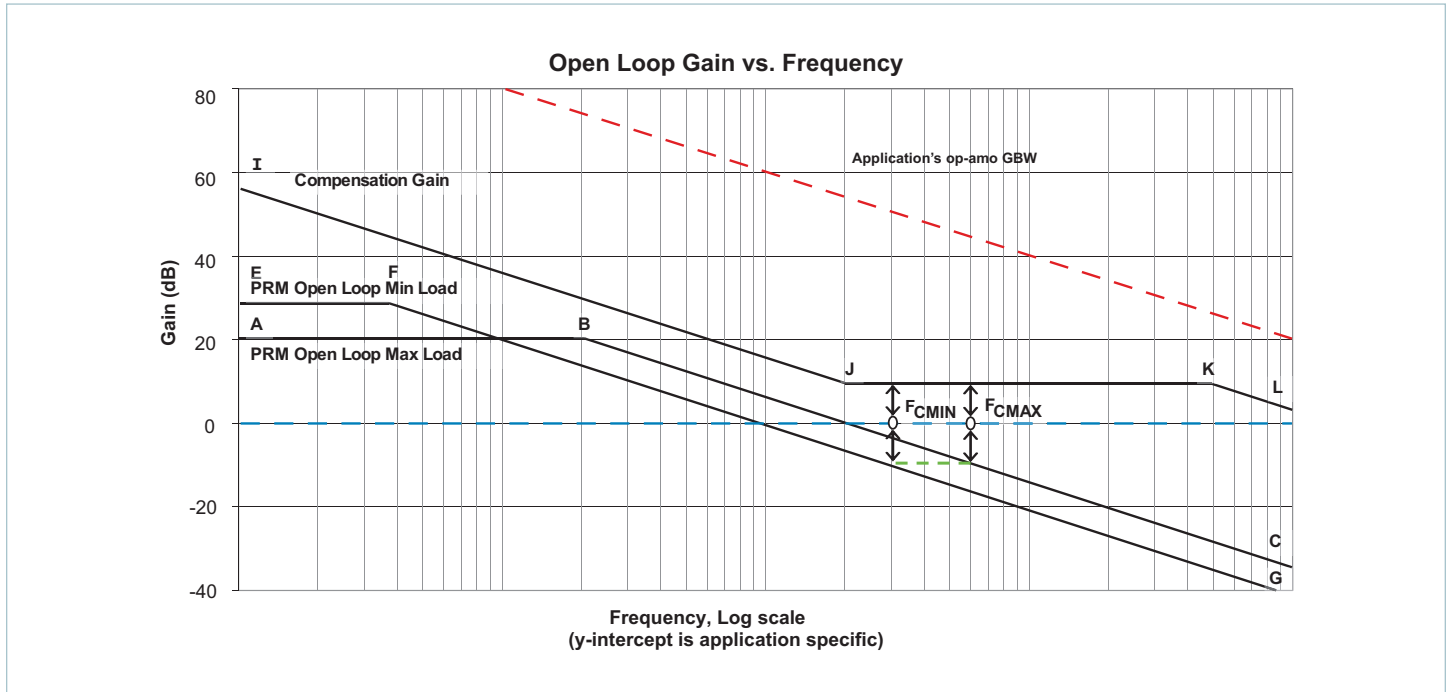

Figure 38 — Reference asymptotic Bode plot for the considered system
Figure 38 illustrates an example of a load step response. Equation (11) can be used to predict the phase margin based on the ratio of the "kick" to "droop" (as defined in Fig. 38).